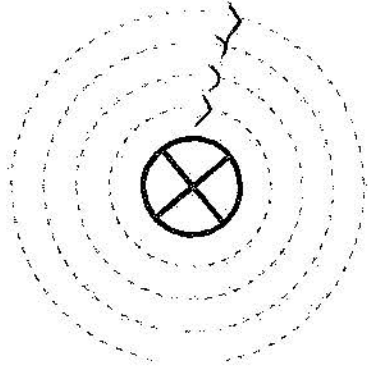

Figure 3
- if the observer looks at a conductor end-on while the current is flowing away from him, this is indicated by an X, as shown in figure 3.